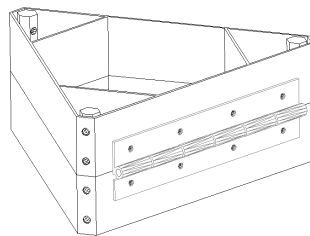

Figure 5 – Hinge Mounted on Hinge Bracket
7. Attach the two hinge brackets (item 10) with the hinge assembly (item 9) using 5/16" x 1" hardware (items 19, 21, 22). Ensure there is even spacing between the bottom and middle tower sections where the 3" hex spacer bars meet. See Figure 5.